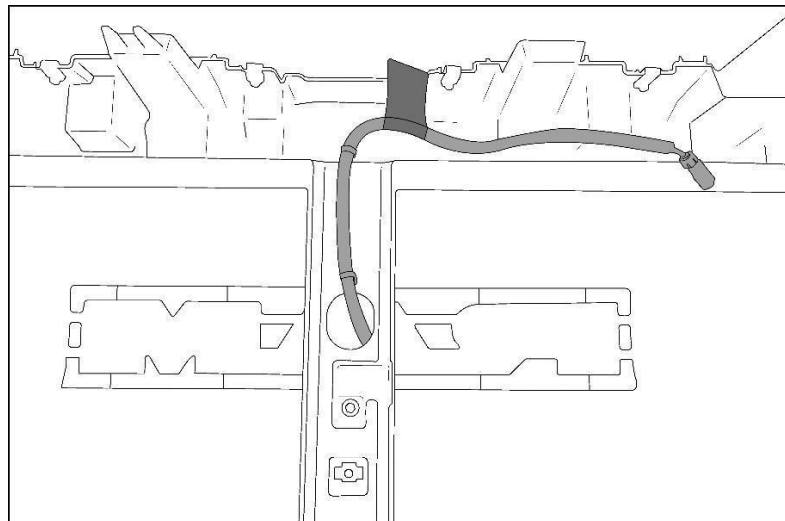

Figure 5.
6. Remove the factory harness from the back side of the grill by removing the christmas trees and the two T-8/10 screws holding the camera mount to the grill. Save harness and camera for eventual reassembly. (fig. 5)